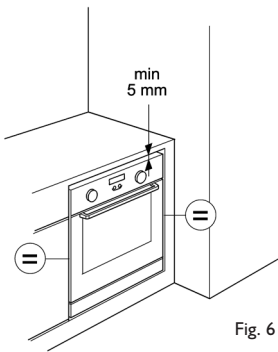

Fig. 6
- With ovens installed under worktops, there must be a minimum slot of 5mm between the upper border of the oven and the lower border of the worktop. (fig. 6). **In order for the appliance to work properly, this slot should never be closed.**